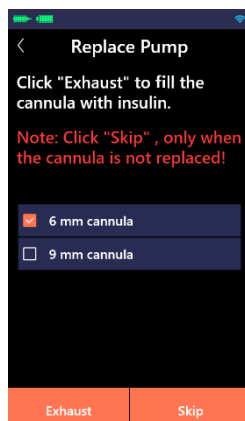

Figure 11.7
(7) Exhaust, Select the length of the soft cannula you are using and then click “Exhaust”, the insulin will fill the soft cannula (Figure 11.7).